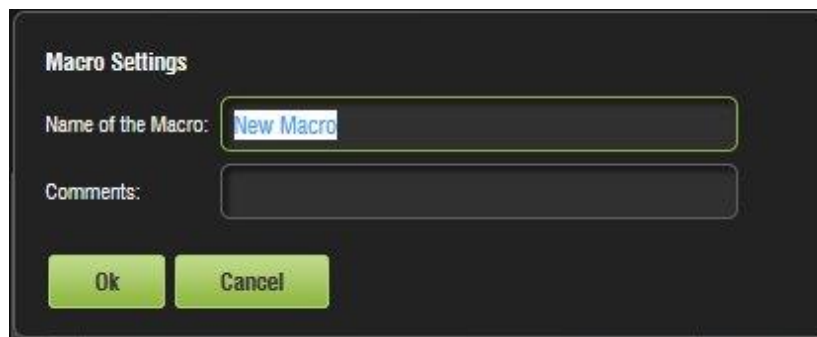

Figure 137: New Macro Settings
- The user will be prompted to enter a name for the Macro Automation Cue (Figure 137).